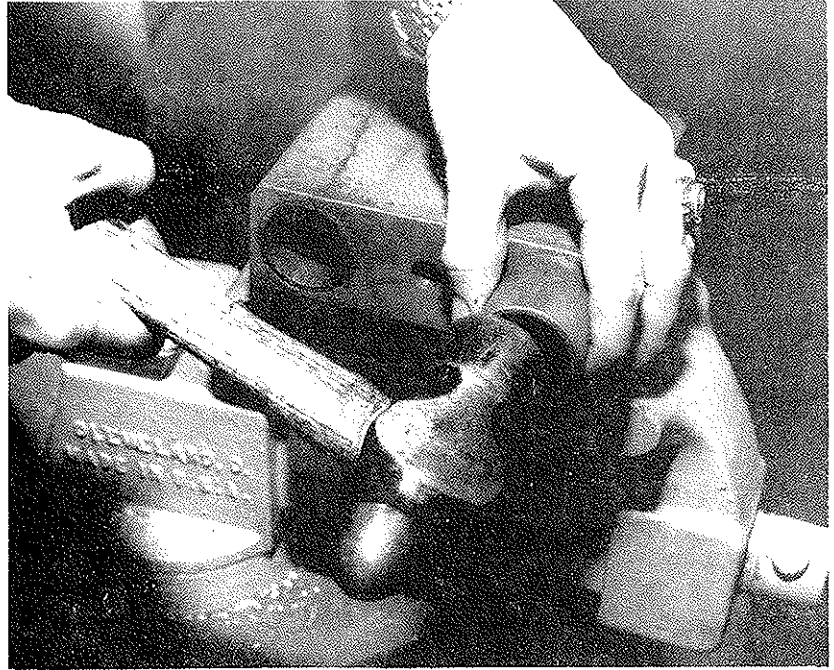
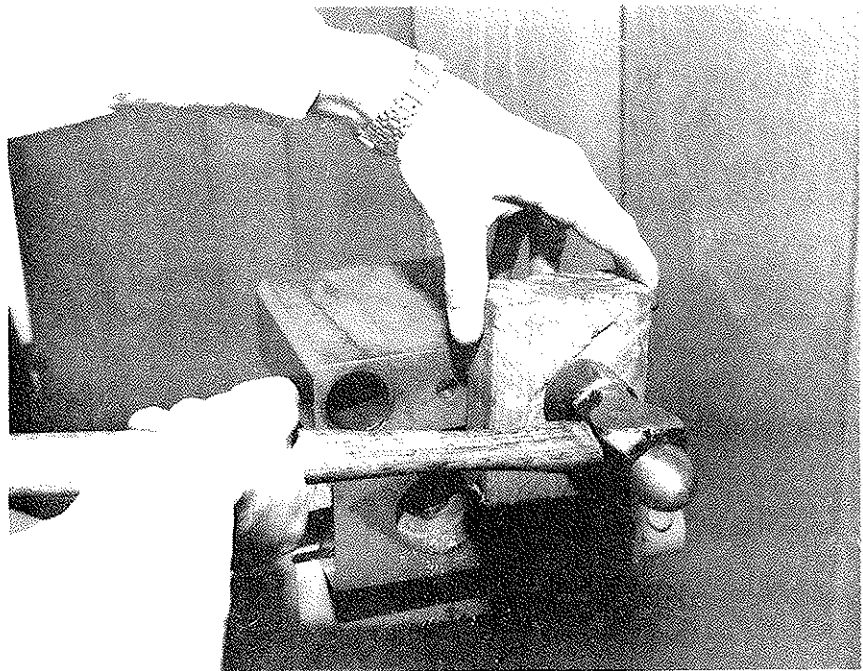

Figure 16
Figure 17
4. Insert new bushings in die carriage. NOTE: Bushings should be started into hole by "LIGHTLY" tapping with hammer. (Figure 16) After bushings are started place a block of wood against bushing to prevent damage when driving them in. (Figure 17) If bushings are damaged use a round or half-round file to remove burrs from bushings.